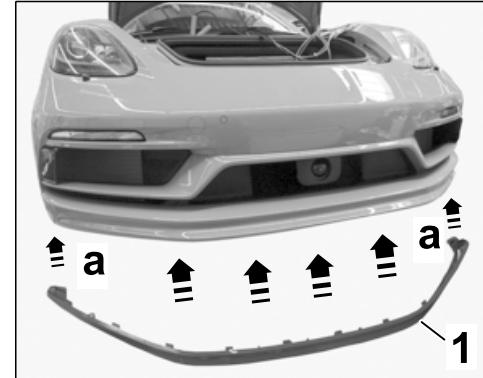

Figure 30
5.13.1 First insert the spoiler lip into the front apron at the outside  $\Rightarrow$  Figure 30 -arrows a- with the help of an assistant and then clip it into the front apron, starting from the outside to the center  $\Rightarrow$  Figure 30 -arrows-.